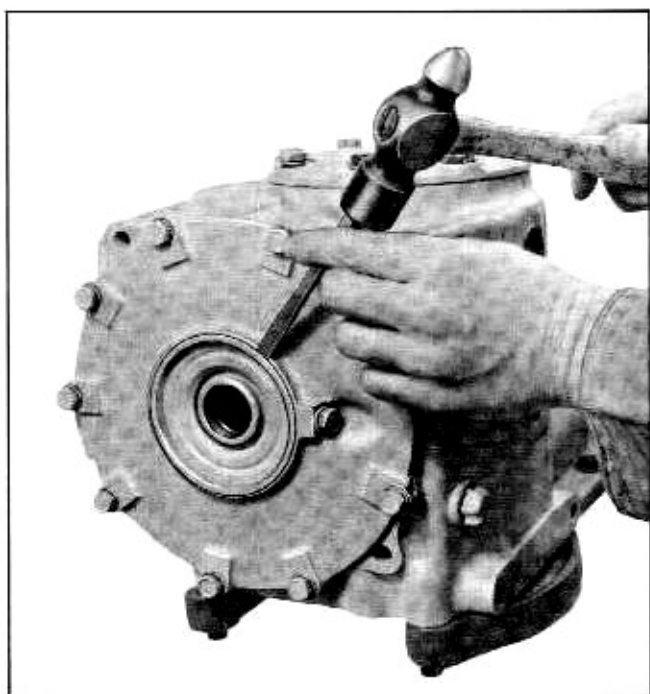

Fig. 4-23 Removing Side Bearing Oil Seal
4. Remove differential side bearing oil seals (Fig. 4-23).